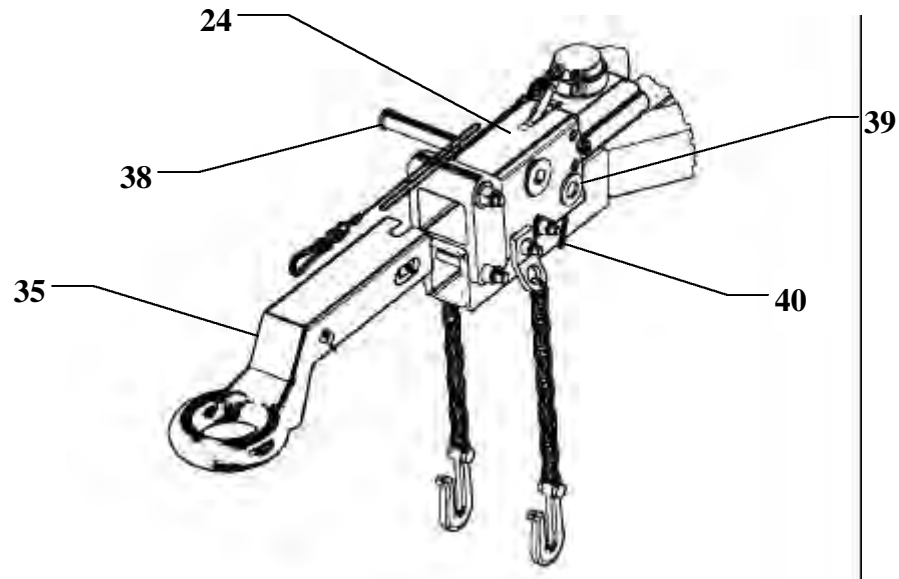

Figure 7
19. Insert inner slide (35) into housing (24), positioning the inner slide so the side slot is aligned with the master pin hole in the cast housing. (figure 7)
20. Install master pin P/N 12479777 (38) through cast housing, ensuring it passes through both rollers and rear damper eye. (figure 7)
21. Install flat washer P/N W221NAAW087NN039NNBA1 (39) and new supplied cotter pin P/N MS24665-421 (40) to secure the master pin. (figure 7)